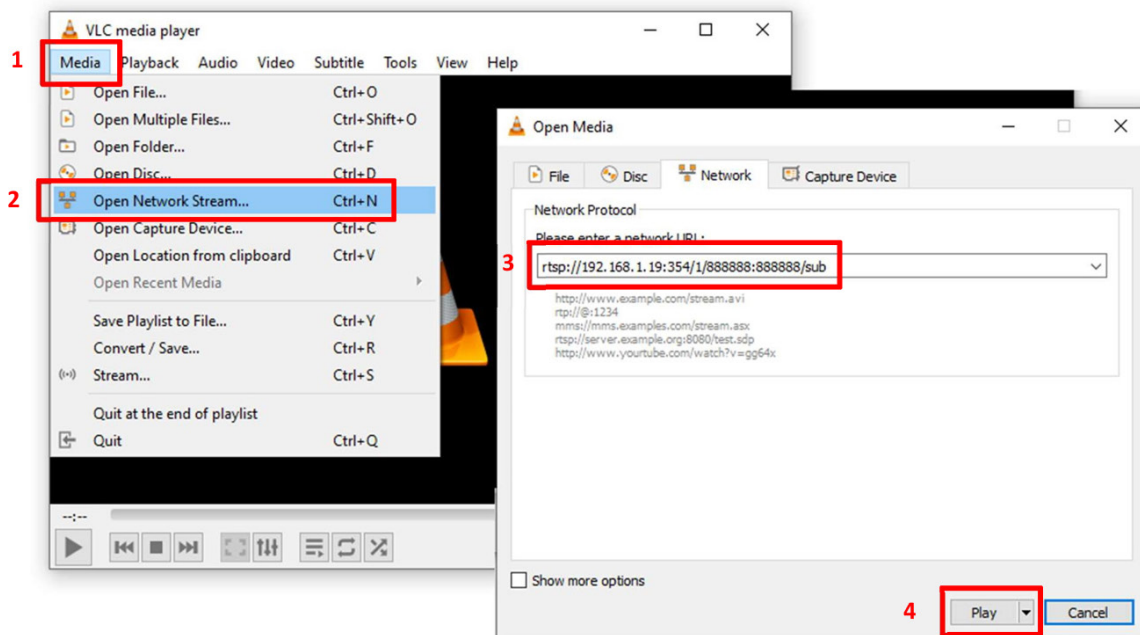

Figure 6-1: RTSP protocol with VLC media player
2. After installation is complete, open the media player and refer to Figure 6-1.